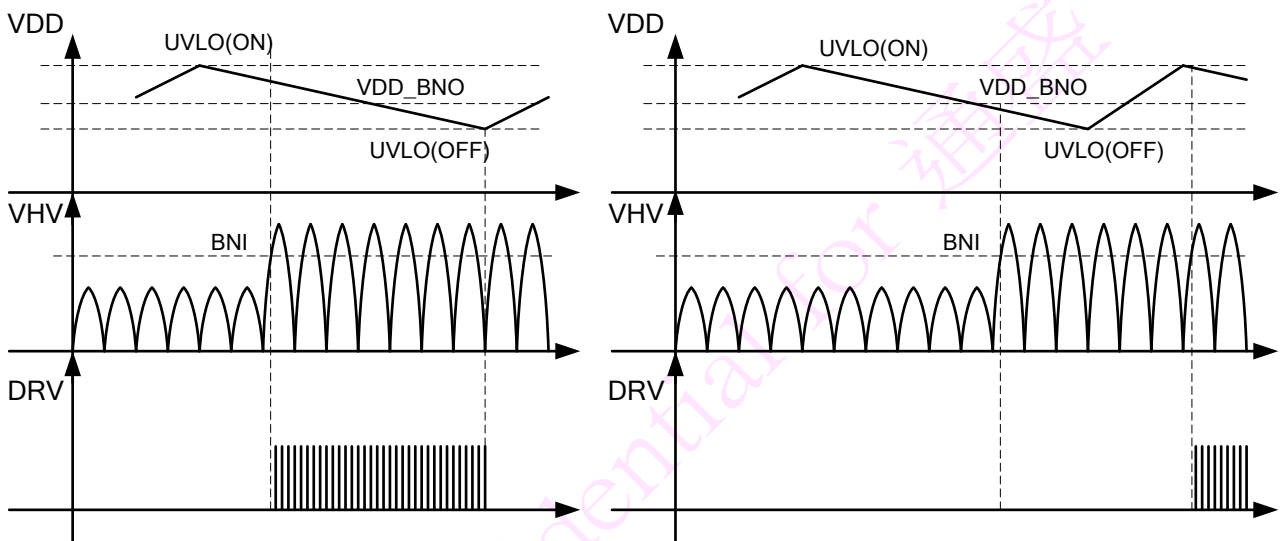

Fig. 5.2
The WT7161R features brown in/out protection on HV pin. When HV pin voltage (VHV) goes above brown-in threshold (BNI) and $VDD > VDD_BNO$ (13.5V), the controller can start immediately. Otherwise, the controller actually starts the next time VDD reaches UVLO (ON), as shown in Fig. 5.2. When VHV goes below brown out threshold (BNO) for more than a de-bounce time, the controller will stop switching. The WT7161R has four brown in/out detect thresholds, which set by a resistor between VDD and COMP pin. The setting table 5.1 is shown as below.